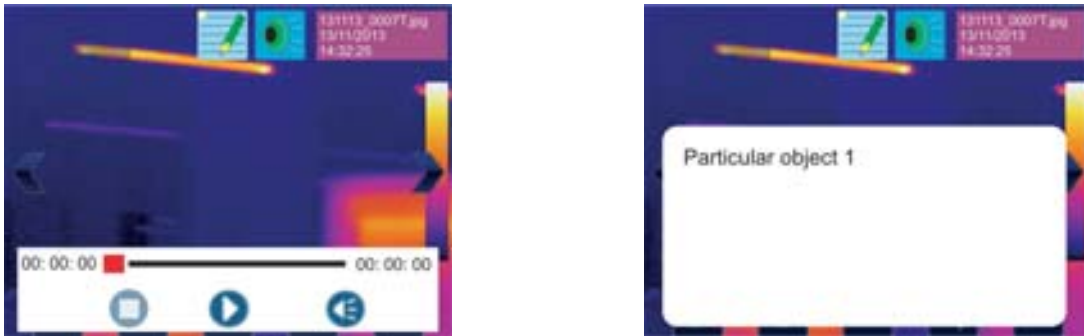

Fig. 66: Display of voice and text annotation
5. Touch the icon “”. The following screen appears on the display (see Fig. 66 – Left side).
10. Touch the icon “” to display the text annotation. The screen Fig. 66 – Right side is shown on the display